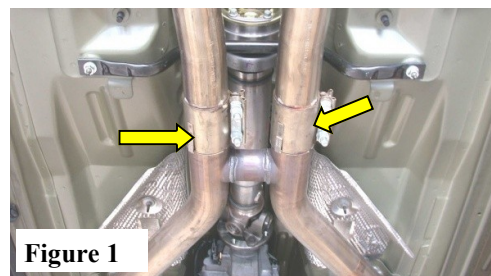

Figure 1
2. Loosen the front band clamps shown located just behind the H-pipe. (See Figs.1 & 2)